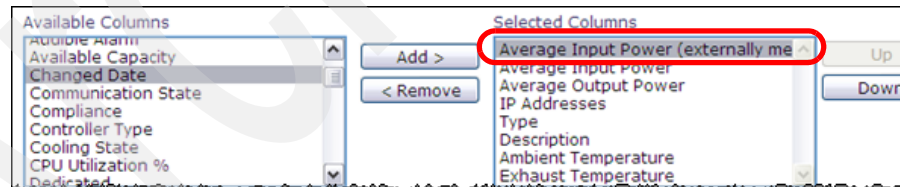

Figure 8-29 Selecting the field
3. Select **Average Input Power (externally metered)** from the Available Columns box, and then click **Add** to move it to the Selected Columns box (as shown in Figure 8-29). Click **Up** until it is located at the very top of the list so that this column appears left-most in the Figure 8-30 on page 393 just after the Name field.